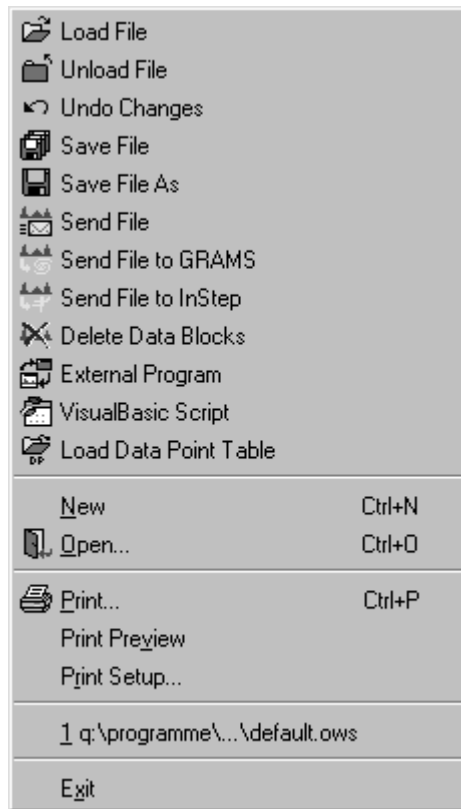

Figure 1: *File* Menu
- Use the *Open* command in the *File* menu (see Fig. 1). Use “*.obs” as default extension. If you load this type of file, the respective user